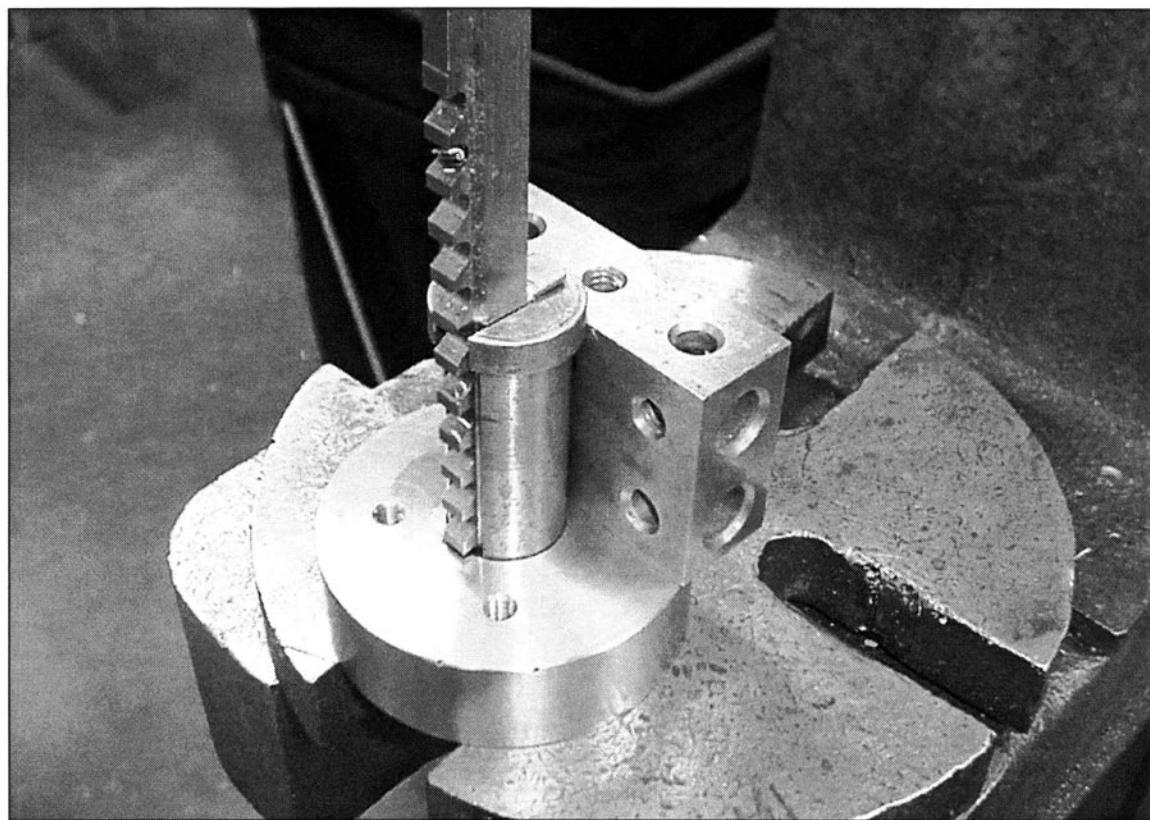

FIGURE 6-11 The guide bushing for this keyway broach is supported well above the part which helps keep the broach from tilting and digging in.
17. Support keyway broaches up high. (See Fig. 6-11)